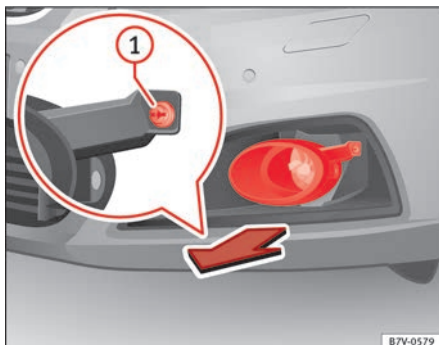

Fig. 207 On the right-hand side of the front bumper: Removing the headlights
2. Pull the cover forwards, in the direction of the arrow ⇒ fig. 207.
3. Unscrew the attachment screw ⇒ fig. 207 ① using the screwdriver from the on-board tools ⇒ page 320.
11. Tighten the attachment screw ⇒ fig. 207 ① using the screwdriver.
12. Replace the cover on the bumper ⇒ fig. 207.